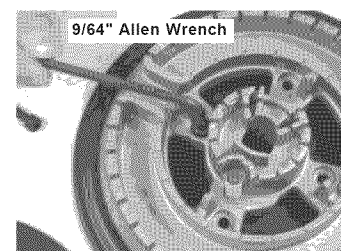

Fig. 7
- Using a 9/64" Allen Wrench remove 2 black Triple Ring Burner Cap-head mounting screws as shown in Fig. 7. Retain these Cap-head Mounting screws for reinstallation purposes.
- Secure the Triple Ring Burner Head to the cooktop using a 9/64" Allen wrench with the 2 black Cap-head Mounting Screws (Refer to Fig. 7).